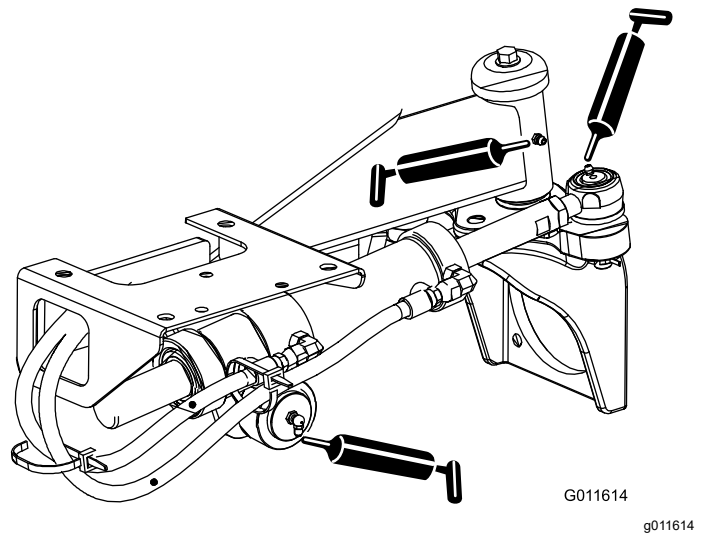

Figure 34
- Steering-cylinder ball joints (2) and rear axle (1)—Figure 34